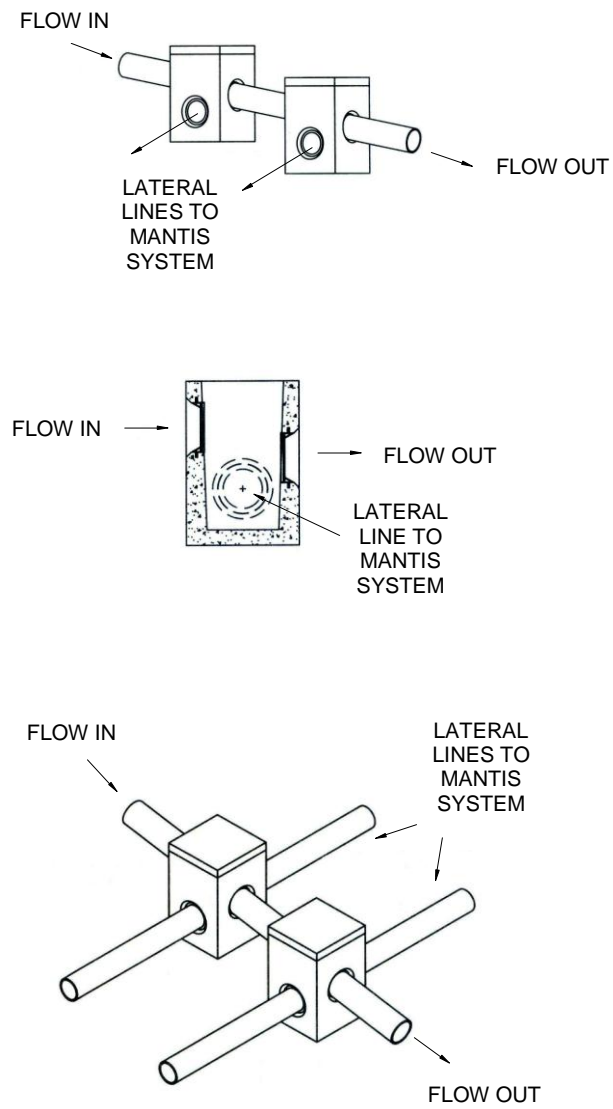

Figure 7
16. Installing the distribution pipe for 6" invert applications: Refer to Figure 7 for drop box drawings.
17. Installing the distribution pipe for 12" invert applications: Refer to Figure 7 for drop box drawings.